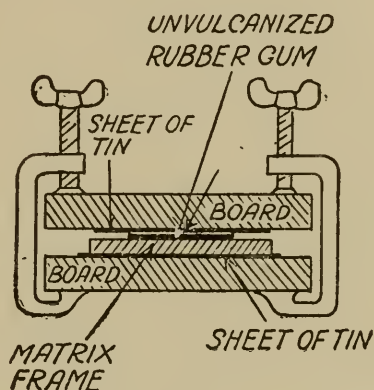

FIG. 76. THE MATRIX WITH THE RUBBER GUM IN PLACE READY TO VULCANIZE
**Vulcanizing the Rubber.**— Cut a piece of the unvulcanized gum rubber  $\frac{1}{4}$  inch wider and longer all round than the impression of the type; peel the strip of muslin from the strip of rubber gum and lay it on the matrix. Put one of the boards on top of the rubber and the other on the bottom of the matrix and screw them together tight with the iron clamps as shown in Fig. 76.